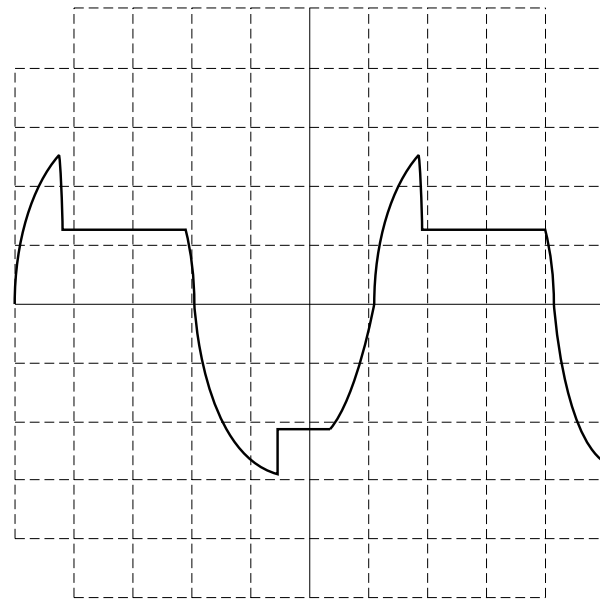

Figure 5. ODEP Limiting Wave Form
**Procedure:** Load the amplifier to 2 ohms per channel. Inject a 60 Hz sine wave into each channel and adjust the output to 10 VAC. Allow the amplifier to heat up until you observe a wave form similar to figure 5. Allow the amplifier to cool for a few minutes. Switch the amplifier to Parallel Mono mode and remove the load from channel 2. Inject a 60 Hz sine wave into each channel and adjust the output to 10 VAC. Allow the amplifier to heat up and observe limiting on both channels.